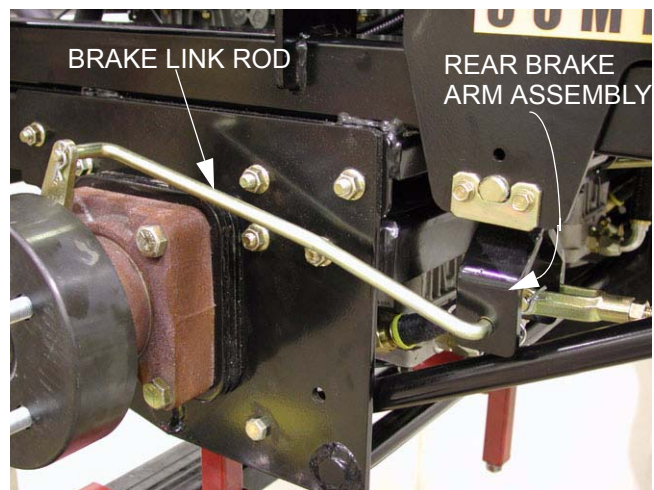

Figure 7.10
- 7.10. Disconnect the brake link rods (left and right). See Figure 7.10.